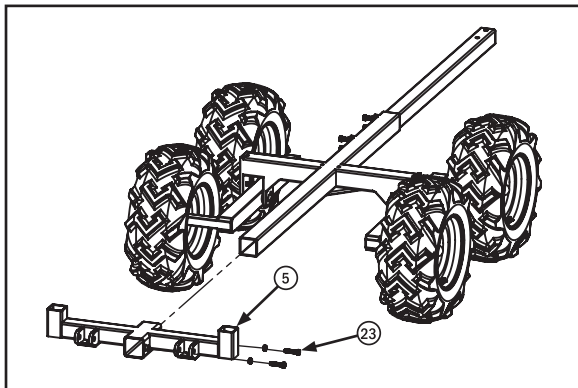

Fig. 9
Step 10: Install the Rear Bed Support. Place the Rear Bed Support (5) onto the rear end of the Main Frame (1) so that the ends are flush, then use two M12x50 Bolts w/ Nuts (23) to secure it in place (Fig. 9) by backing off the lock nuts, tightening the bolts, then locking the bolts in place by tightening the lock nuts.
Step 11: Install the Front Bed Support. Place the Front Bed Support (4) onto the Frame Extension Tube (17) so that the front face is about 7-8 in. (20 cm) from the end of the Main Frame (1), then use two M12x50 Bolts w/ Nuts to secure it in place. Note: the bed is 78 in. (200 cm) long, and the Front Bed Support should be about 70 in. (180 cm) from the back of the Rear Bed Support.